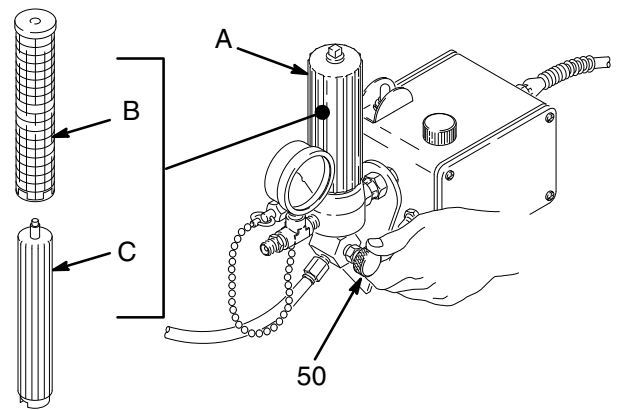

Fig. 7
2. Remove the filter bowl (A) and screen (B); see manual 307–273. Clean the screen separately and install the bowl without the screen to flush it. See Fig. 7.